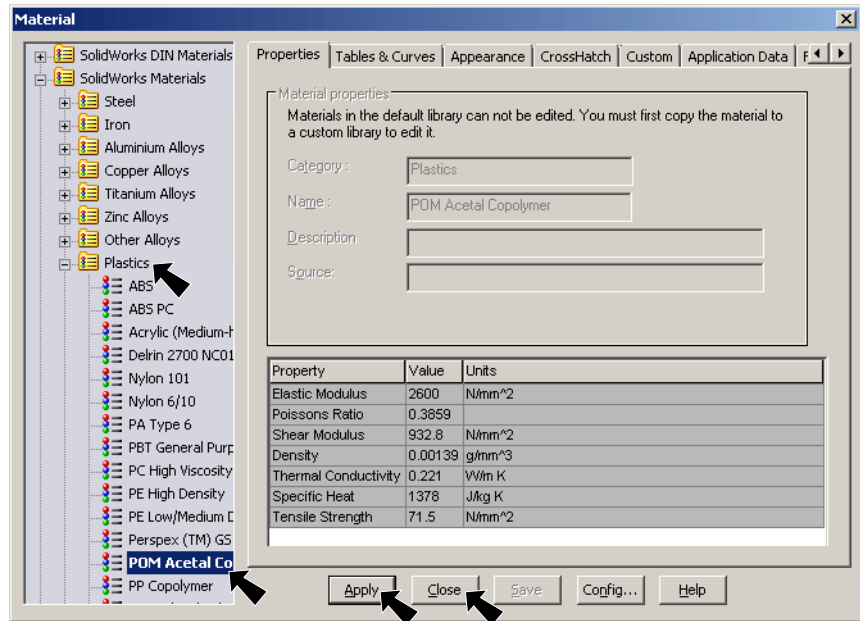

Fig. 19
Step 2. **Expand Plastics** in the material tree and select **POM Acetal Copolymer**, Fig. 19. Click **Apply** and **Close**.